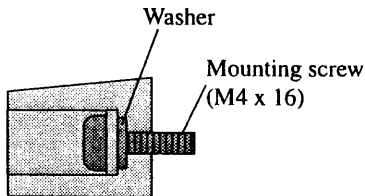

Fig. 2-13
- NOTE** • The PMR-DU and PMR-QU types are shipped with a screw and washer in the mounting hole on the left side of the cover (Fig. 2-13). If the short bar is not to be used, remove the washer before installing the cover.
Before installing the cover, mount each screw on the accompanying washers (Fig. 2-13).